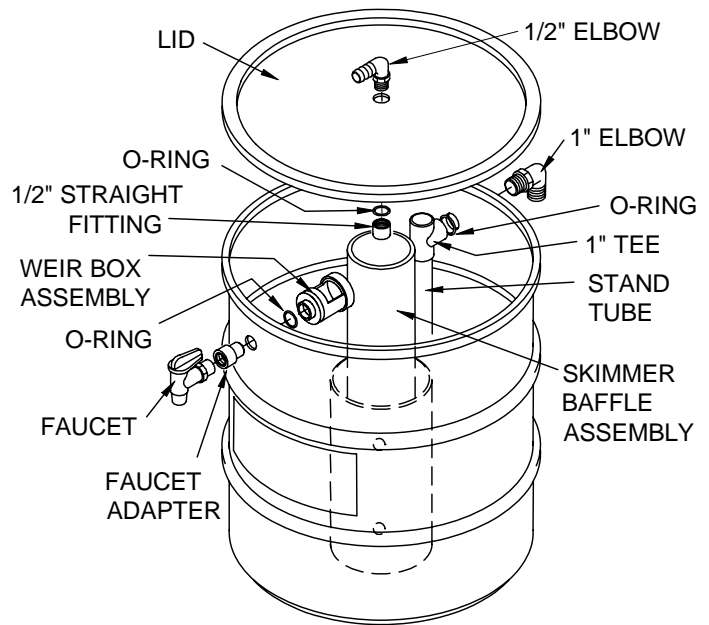

Figure 4
1. Install the Faucet Adapter to the 3/4" Faucet. Install the assembly through the smaller of the two holes in the side of the reservoir. Install a 3/4" O-Ring on the inside of the reservoir over the faucet adapter threads. Install the Weir Box Assembly on the faucet adapter. The Weir Box opening must be at the top when tightened (see Figure 4).
2. Install the 1" Male Elbow in the 1" hole opposite the Weir Box. Install a 1" O-Ring over the threads on the inside of the reservoir and install the 1" Tee. Position the Tee as shown and press the Stand Tube into the Tee bottom until seated (see Figure 4).
3. Install the 1/2" Male Elbow in the reservoir lid. Install the 1/2" O-Ring and 1/2" Straight Fitting inside the reservoir lid (see Figure 4).